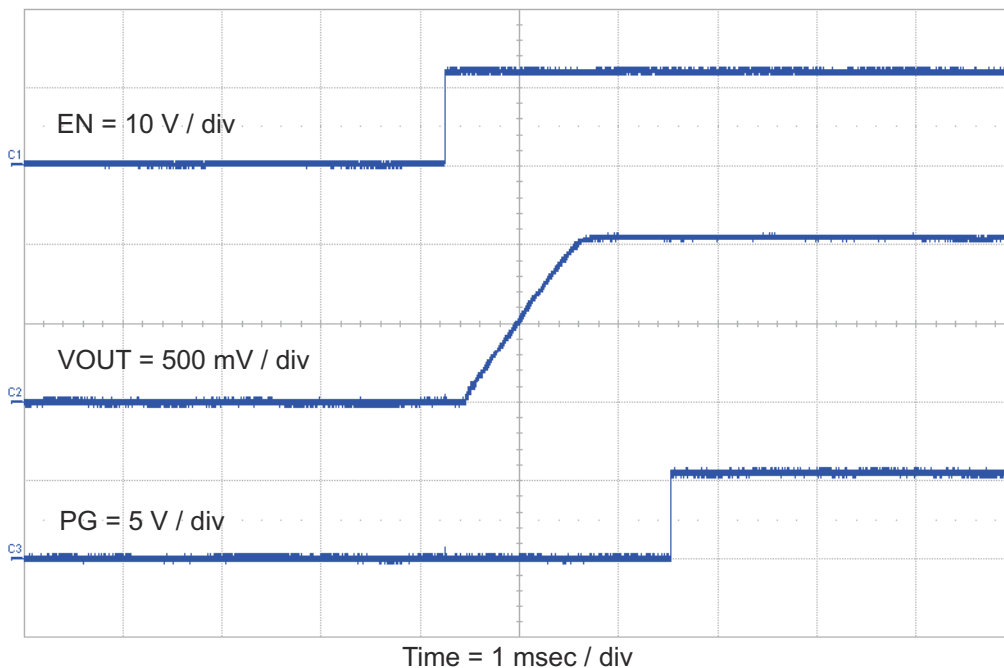

Figure 2-9. TPS54426EVM-608 Start-Up Relative to Enable
The TPS54426EVM-608 start-up waveform relative to enable (EN) is shown in Figure 2-9.